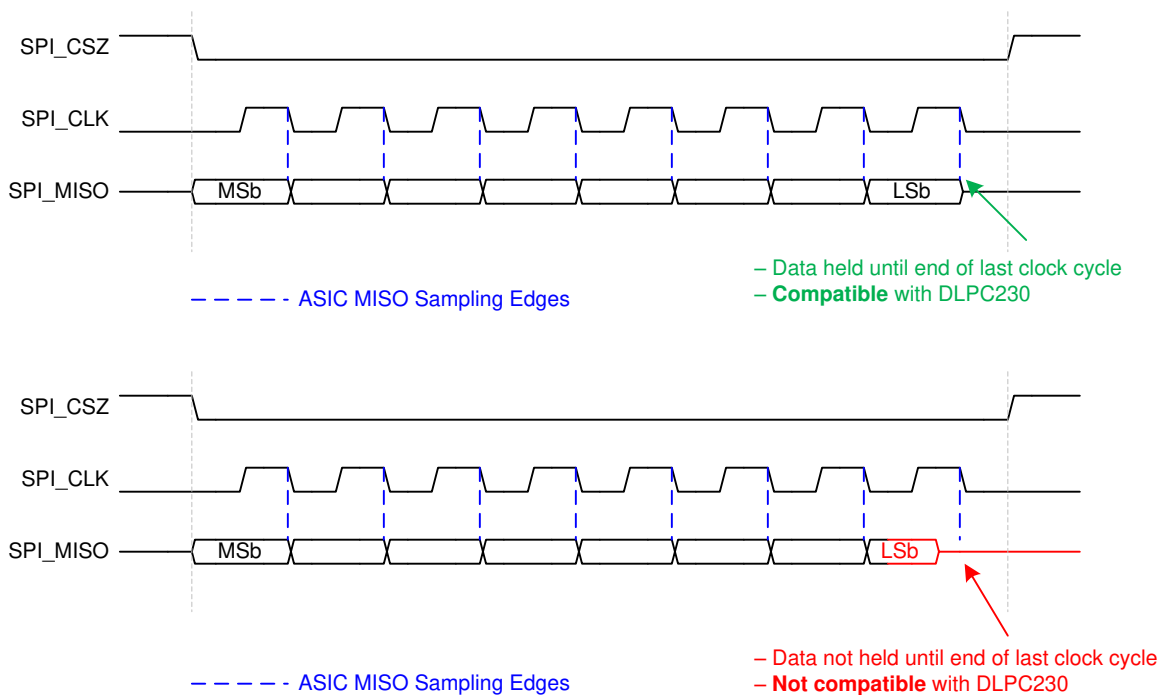

図 5-8. Flash Interface Data Capture Requirements
- (1) The DLPC23xS-Q1 communicates with flash devices using a slight variant of SPI Transfer Mode 0 (that is, clock polarity = 0, clock phase = 0). Instead of capturing MISO data on the clock edge opposite from that used to transmit MOSI data, the DLPC23xS-Q1 captures MISO data on the same clock edge used to transmit the next MOSI data. As such, the DLPC23xS-Q1 Flash SPI interface requires that MISO data from the flash device remain active until the end of the full clock cycle to allow the last data bit to be captured. This is shown in 図 5-8.
- (2) The actual maximum clock rate driven from the DLPC23xS-Q1 can be slightly less than this value.